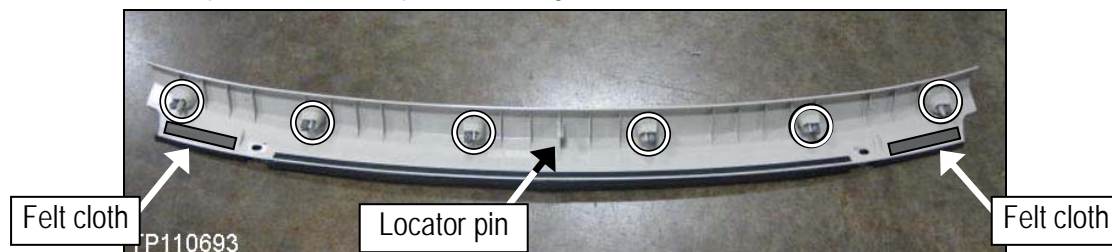

Figure 2f
2. Cut two 10 mm x 100 mm pieces of felt cloth from the 1 mm sheet, and then install where shown in Figure 2f.
3. Break off the locator pin with suitable pliers (see Figure 2f).
4. Cut six 10 x 50 mm pieces from the 1 mm sheet, and apply to the clips as shown in Figure 3f, and where circled in Figure 2f.